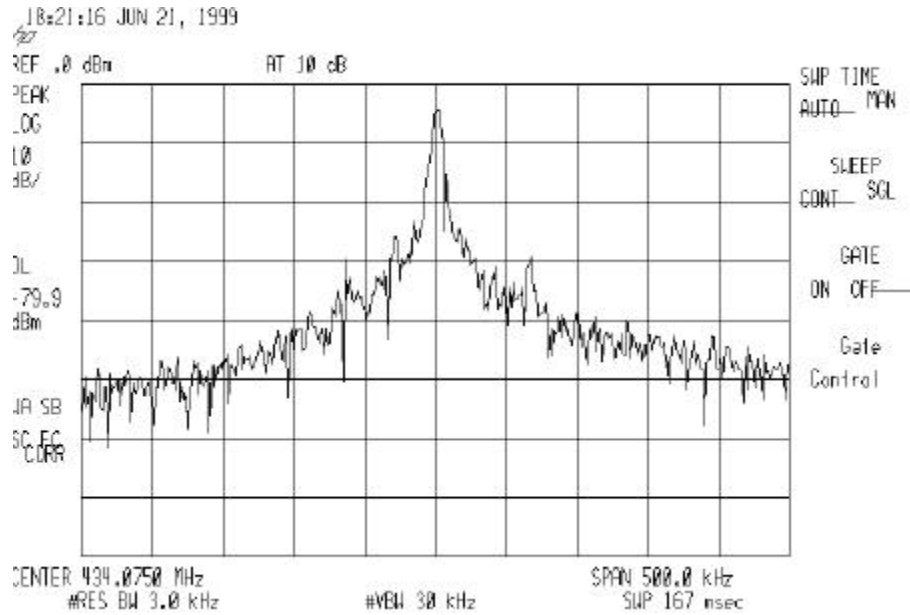

Figure 10: Typical out spectrum in ASK 9.2 kb/s PRN modulation.
- 2) Measurement bandwidth (close to EN 300 220-1) see also figure 10.